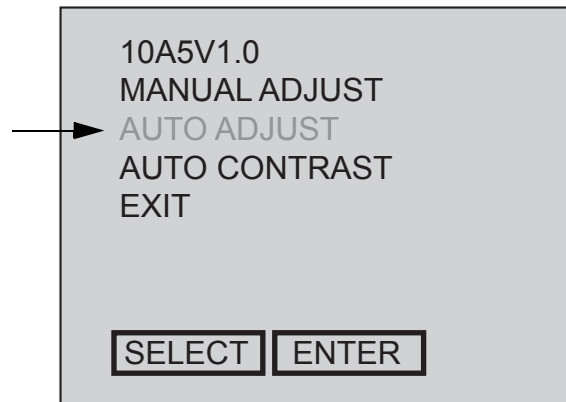

Figure 6-19 OSD Softmenu 1
- 14.) The first screen is shown on the display. Touch **SELECT** three times to select **EXIT**. Refer to Figure 6-19.